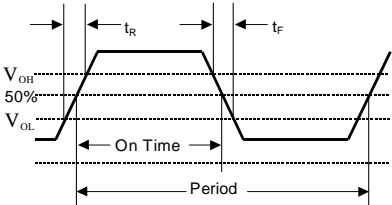
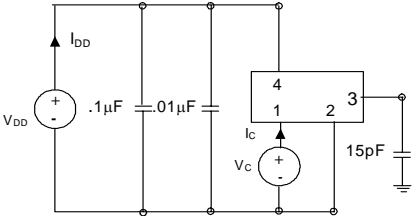

Figure 1. Output Waveform
Figure 2. Typical Output Test Conditions (25±5°C)
2. Figure 1 defines these parameters. Figure 2 illustrates the operating conditions under which these parameters are tested and specified. For $f_O > 90\text{MHz}$, rise and fall time is measured 20 to 80%.